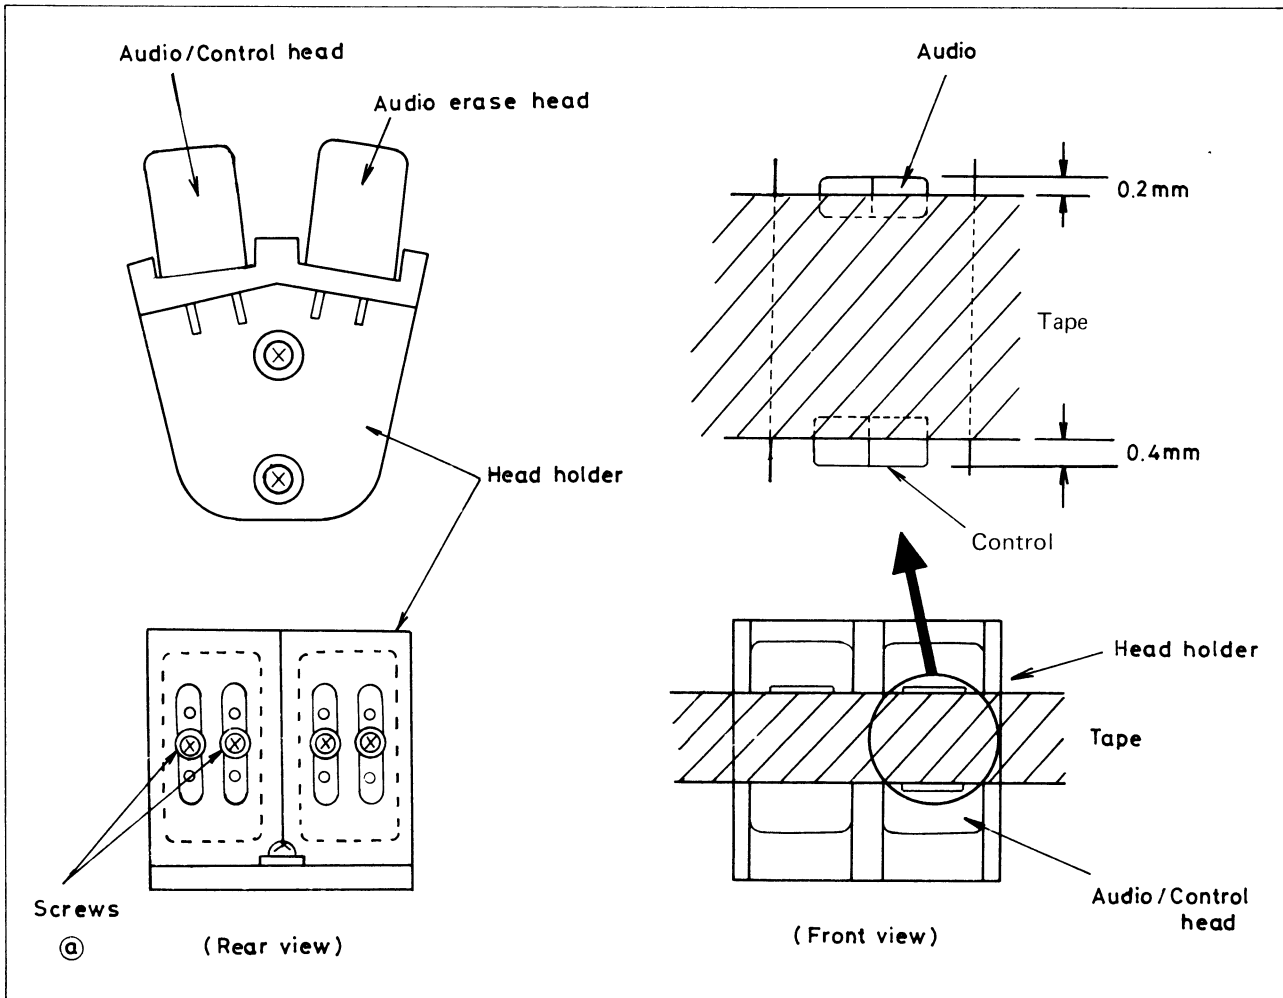

Fig. 6-5.
If the Audio/Control head is worn or damaged, replace by following the procedure given below. The head has the audio portion at the top, and control portion at the bottom. See Fig. 6-5.
5. Play back the tape and check that the core of the head extends 0.2mm (0.008 in.) above and 0.4mm (0.016 in.) below the edges of the tape as shown in Fig. 6-5 below. If out of specification, the height can be adjusted by altering the head mounting position. After loosening the two screws at the rear of the head assembly, and positioning the head properly, then tighten the two screws.